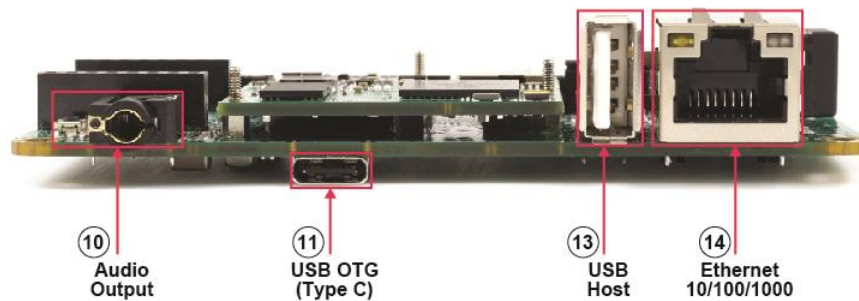

Figure 3. Front view of the PICO-i.MX6UL board
- USB OTG type-C connector (number 11 in Figure 3). This connector is used for ADB and FASTBOOT interface.
2. Get a USB type A to USB type C cable. Plug the USB type C end to the USB OTG type C connector (number 11 in Figure 3) for ADB and FASTBOOT interface. Plug the other end of the USB cable to your computer.